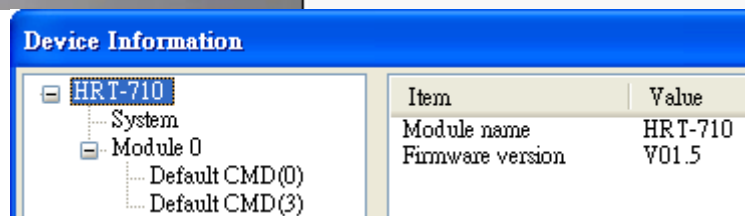

Figure 2-1 “Device Information” screen
(1) Make sure connecting to HRT-710 with HG\_Tool successfully and then click “**Device Information**” button like Figure 2-1.